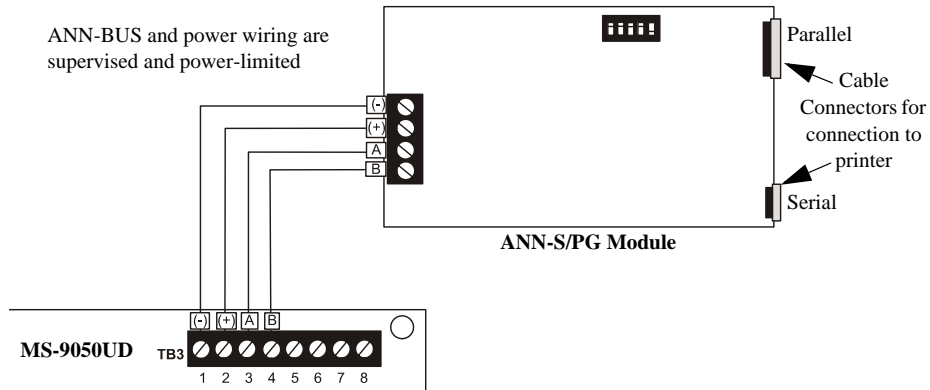

Figure 1.5 ANN-S/PG Connection to FACP
2. Connect the ANN-S/PG to the FACP as illustrated in Figure 1.5
5. Connect a printer to the ANN-S/PG Parallel or Serial connectors (refer to Figure 1.5). Only one printer can be connected.